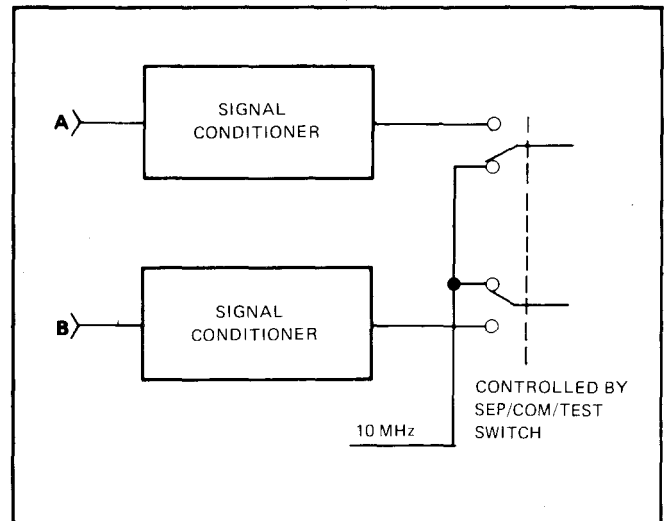

Figure 1.2 - Test
1.3.2.1 The TEST mode of operation (figure 1.2) enables the operator to check for proper operation of the counter.